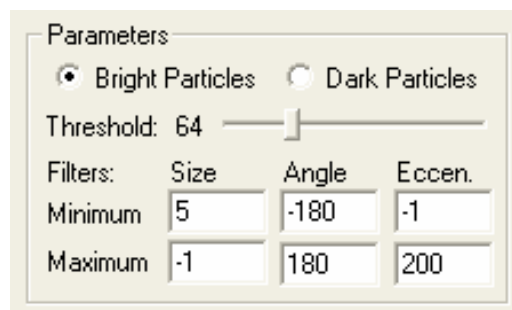

Figure 5
3. The **Particle Tracking** control panel contains several default parameters that can be configured based on specific analysis requirements. Set the “Minimum Size” field to 5, the “Maximum Angle” field to 180, and the “Maximum Eccen.” field to 200 (Figure 5).